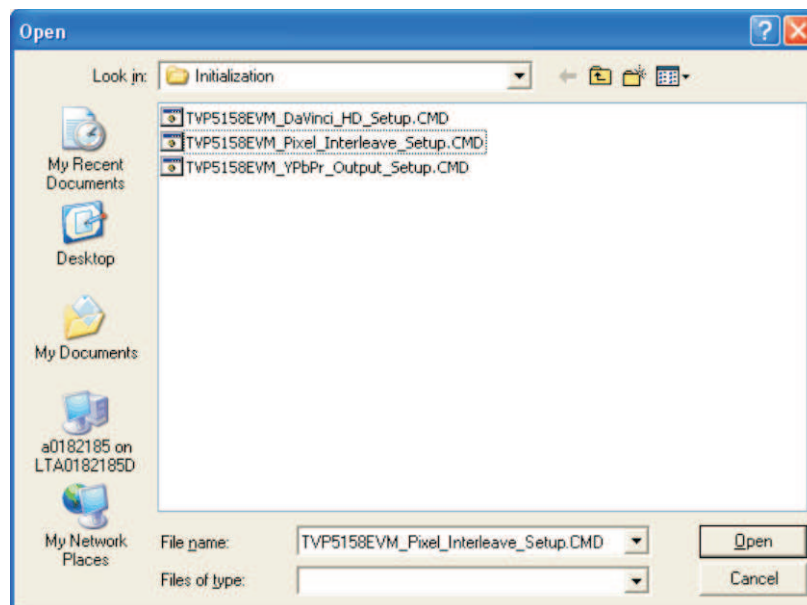

Figure 14. Browse to Command File
6. Click the Browse... button. The Open dialog box appears (see Figure 14). Double-click the file TVP5158EVM_DaVinci_HD_Setup.CMD
1. In the VCC System Initialization dialog box, click the Browse button. The Open dialog box shown in Figure 14 appears. Double-click the following file: